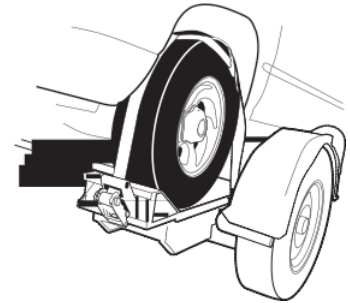

Figure 10
- ❑ Route the tire strap behind the tube and through the slot in the ratchet spool. Pull about 6 inches of the tire strap through the ratchet spool. Keeping the strap evenly over the tire, operate the ratchet until the strap is tight. (Figure 10) Your vehicle-in-tow **tires are too big** if 6 inches of the tire strap will not pull through the ratchet spool. **DO NOT** put a vehicle-in-tow that has tires that are too big on the tow dolly.